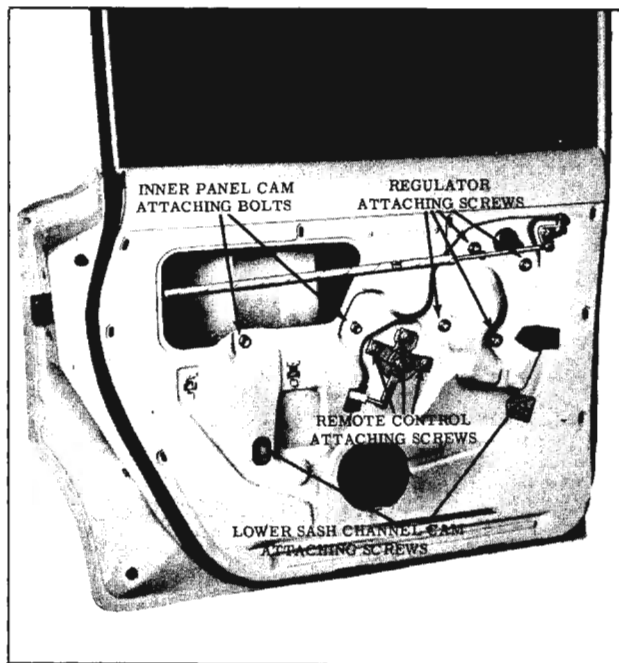

Fig. 16-258 Rear Door Hardware
1. Remove door trim assembly and detach inner panel water deflector sufficiently to gain access to remote control attaching screws. (Fig. 16-258)
3. Remove inside locking rod assembly attaching screw and washer and detach connecting rod from clip on inner panel. (Fig. 16-258)